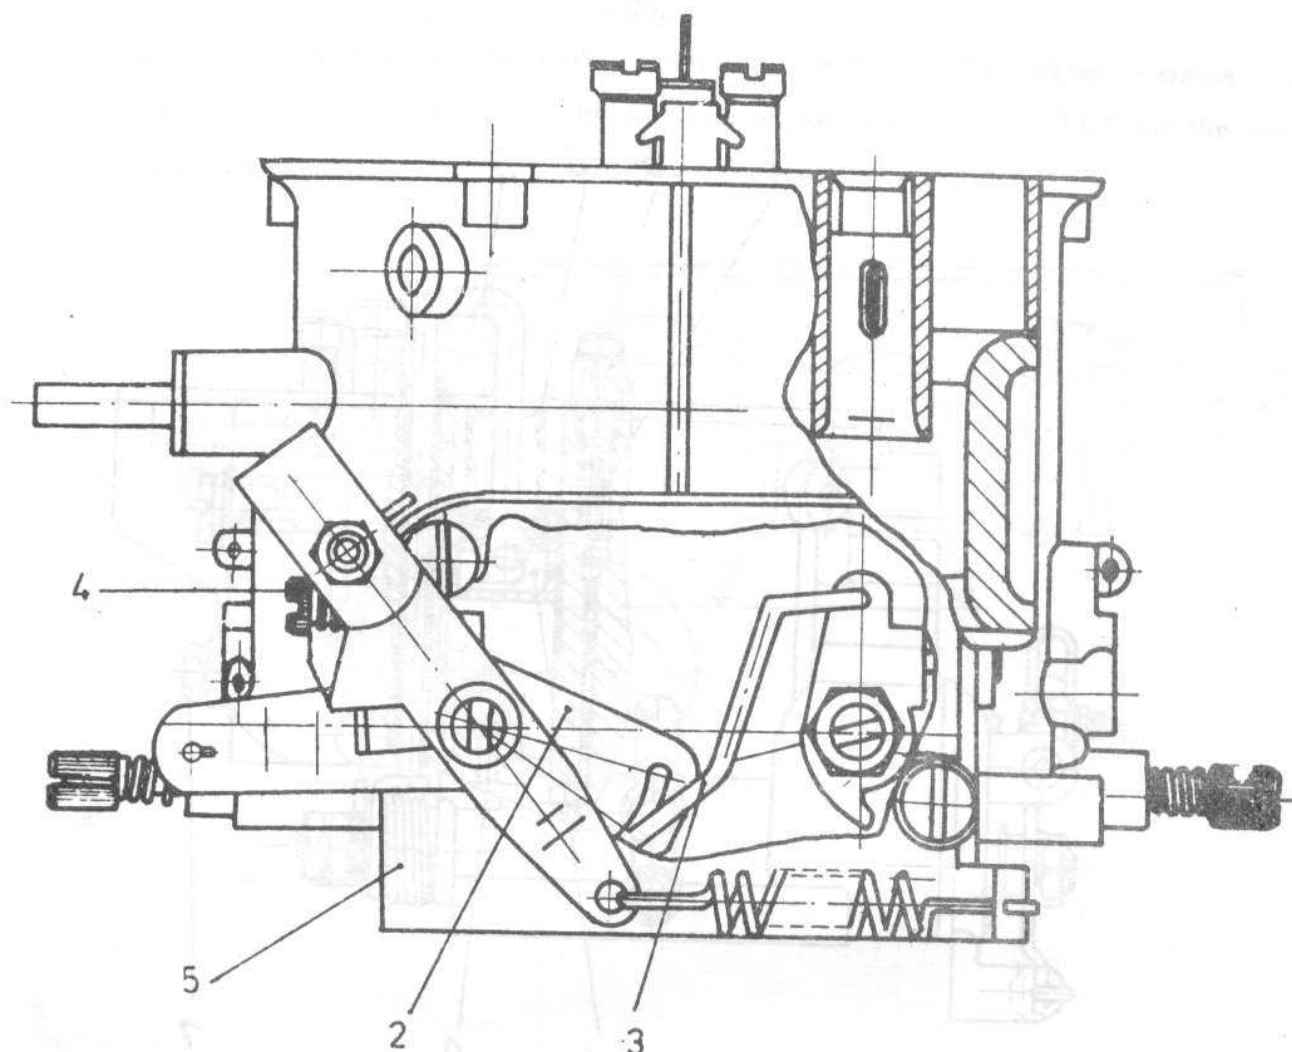

Fig. 4. 6. MECHANISM OF SINCRONIZED MOTION OF THROTTLE BUTTERFLIES.
For high loads the fuel mixture is enriched by opening of the load valve (2) actuating the acceleration pump piston when the acceleration pedal is actuated at maximum stroke see.fig. 4. 7.